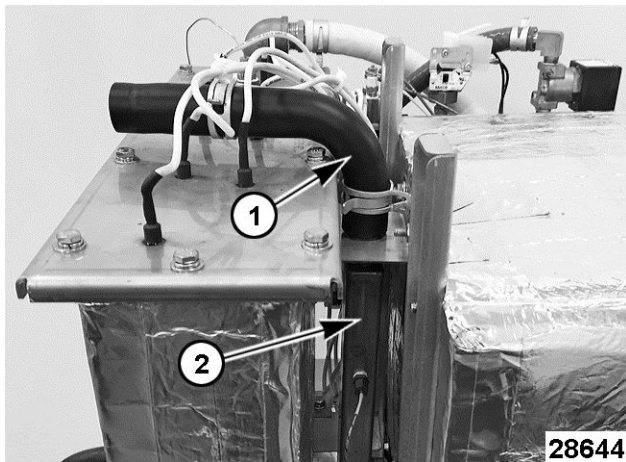

Fig. 32
10. Remove vent hose [1] Fig. 32 from sensor tube [2] Fig. 32.